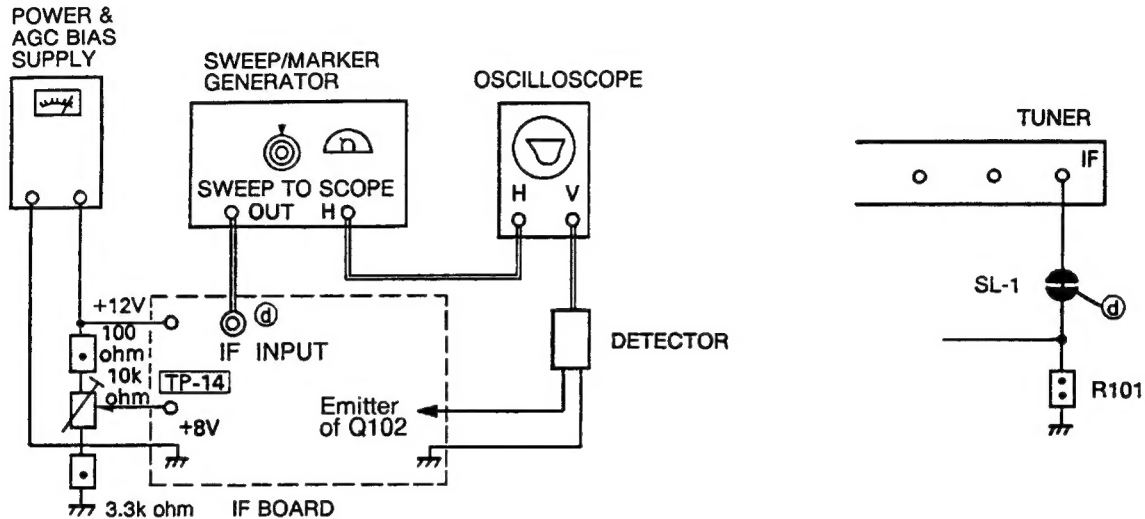

Figure 4.
- GENERAL** Refer to figure 4 for the equipment connection.
- SWEEP/MARKER GENERATOR**..... Connect to the point ④ as shown in figure 4 on the Main Board.